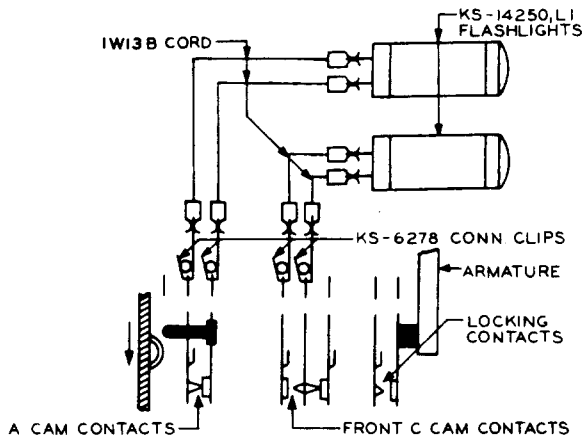

Fig. 20 - Connections for Checking Minimum Initial and Maximum Overtime Intervals
(1) Preparation: Connect one end of each of the 1W13B cords equipped with the 360-type tool to the terminals of the bottom cap of the KS-14250, L1 flashlights. Use the flashlights as specified below in making the tests. Closure of the contacts will be indicated by lighting the associated flashlight and opening of contacts by extinguishing the flashlight. Insulate the timer back "C" cam contacts.
(2) Initial Registration - Minimum Timing Interval: Connect the flashlights to the proper spring terminals at the rear of the timer, as shown in Fig. 20. The flashlight connected to the "A" cam contacts should light, the other flashlights should not. Operate the timer magnet by connecting ground to the right winding terminal connection at the top of the timer. The flashlight associated with the front "C" cam contacts should light for a short interval. Begin timing with the KS-3008 stop watch when these contacts break. At approximately one revolution of the timer gear, the "A" cam contacts will open for a short interval. Cease timing at the reclosure of the "A" cam contacts.
(5) Overtime Registration - Maximum Timing Interval: Connect the flashlights to the proper spring terminals at the rear of the timer, as shown in Fig. 20. Rotate the timer gear manually until the "A" cam is almost in contact with the associated spring stud. Operate the timer by connecting ground to the right winding terminal connection at the top of the timer. The flashlight associated with the "A" cam contacts should light. After a short interval, the "A" cam contacts will open and again close. Start timing with the KS-3008 stop watch at the closure of the contacts. After a short interval, the front "C" cam contacts will close and open. After a revolution of the timer gear the "A" cam contacts will again open and close, followed shortly by the closing of the front "C" cam contacts. Cease timing at this closure of the front "C" cam contacts.